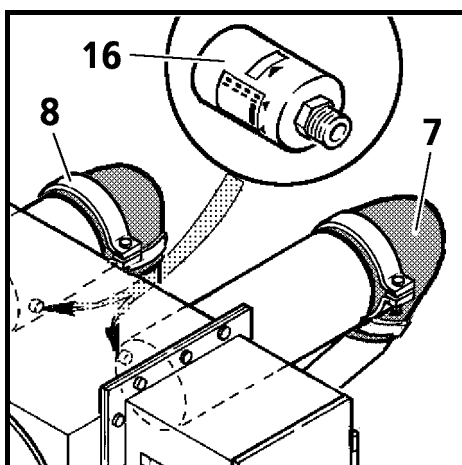
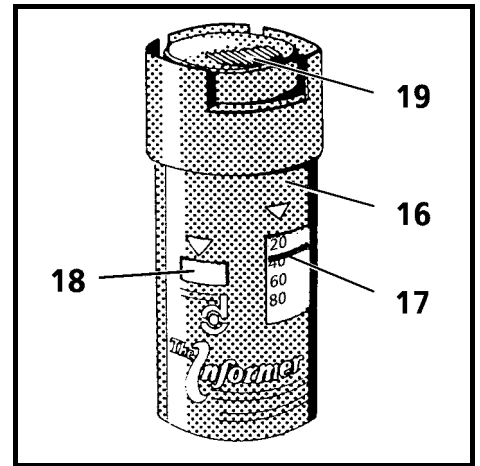

Fig. 34
Fig. 36
The vacuum indicator (Fig. 34, Fig. 36, pos. 16) stores the maximum recorded vacuum pressure on the filter outlet, during the diesel engine operation.
When the red stripe (Fig. 36, pos. 17) appears in the window 18, the maximum permissible vacuum of 50 mbar has been reached.
The rubber hoses and elbows between filter housing and engine (Fig. 34, pos. 7) must be checked for damage, wear, tightness and leaks whenever the filter elements are replaced.